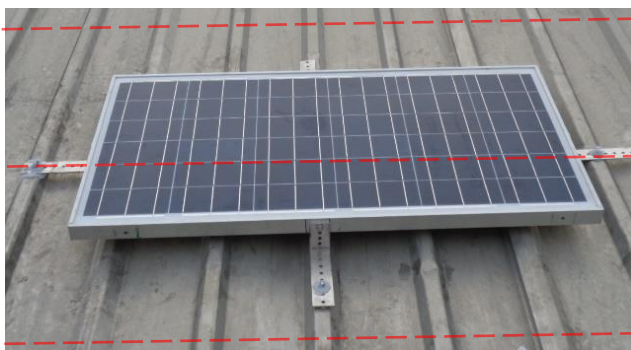

Figure 1
- On rare occasions, if you can't reach both beams, you can secure the middle of the panel to the beam using an L-foot on each side. Use one L-foot on the top and bottom of the panel to keep the panel from shifting (see figure 1).
1. Remove the contents of the Solar Suitcase, including the main control board (Fig. 1).